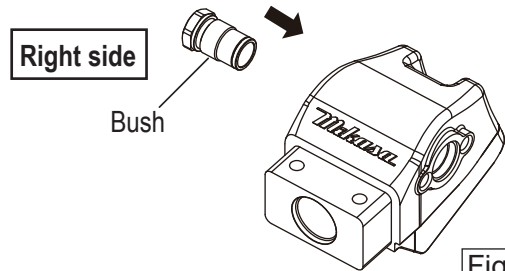

Fig.30
b. Install the bush on the right side of the pump head.(Fig.30)